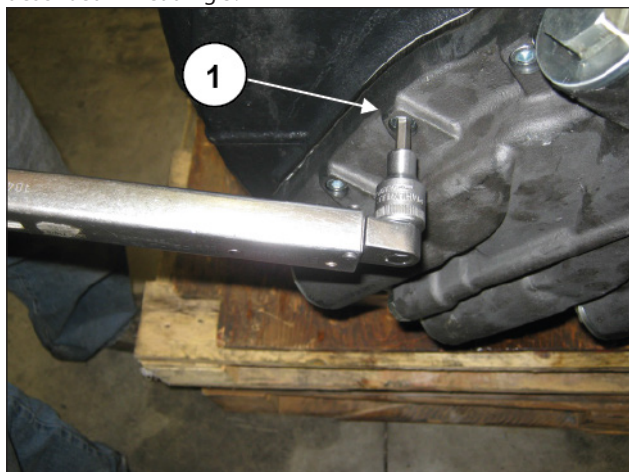

Fig. 128
Tighten the pump body by means of the M8 screws (pos. ①, Fig. 128) and calibrate them with a torque wrench as described in heading 3.